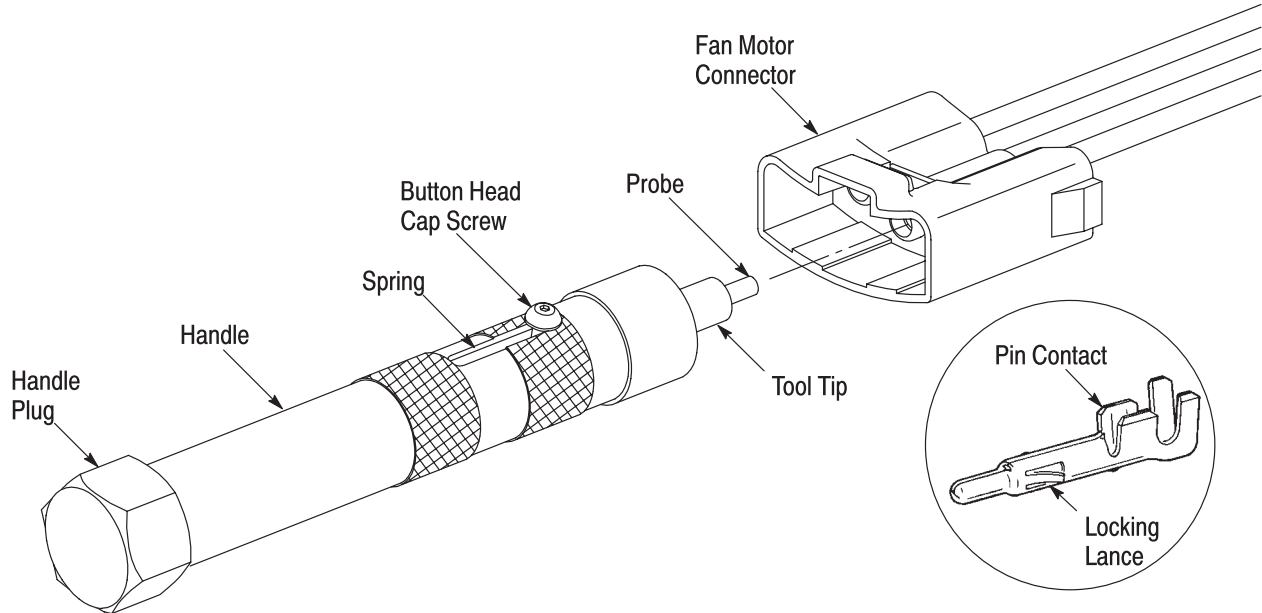

Figure 1
3. RETENTION PROCEDURE (Figure 1)
If the pin contact does NOT dislodge, then it has been properly seated. If the pin contact becomes dislodged, then the locking lances must be reset to their original position of 0.76 [.030] as shown in Figure 1. The pin contact may then be inserted properly into the connector.